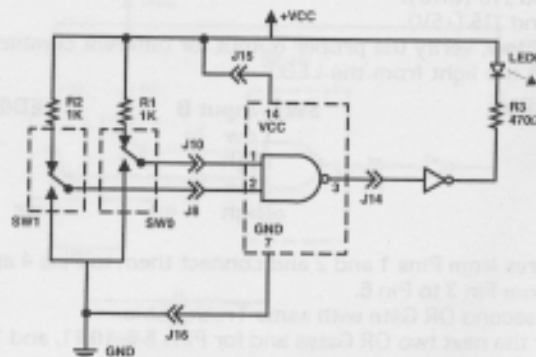

Fig. 16, Circuit Diagram
7. Repeat Steps 4 and 5 for the next two OR Gates and for Pins 8-9, 10-11, and 12-13 (see Figure 16).